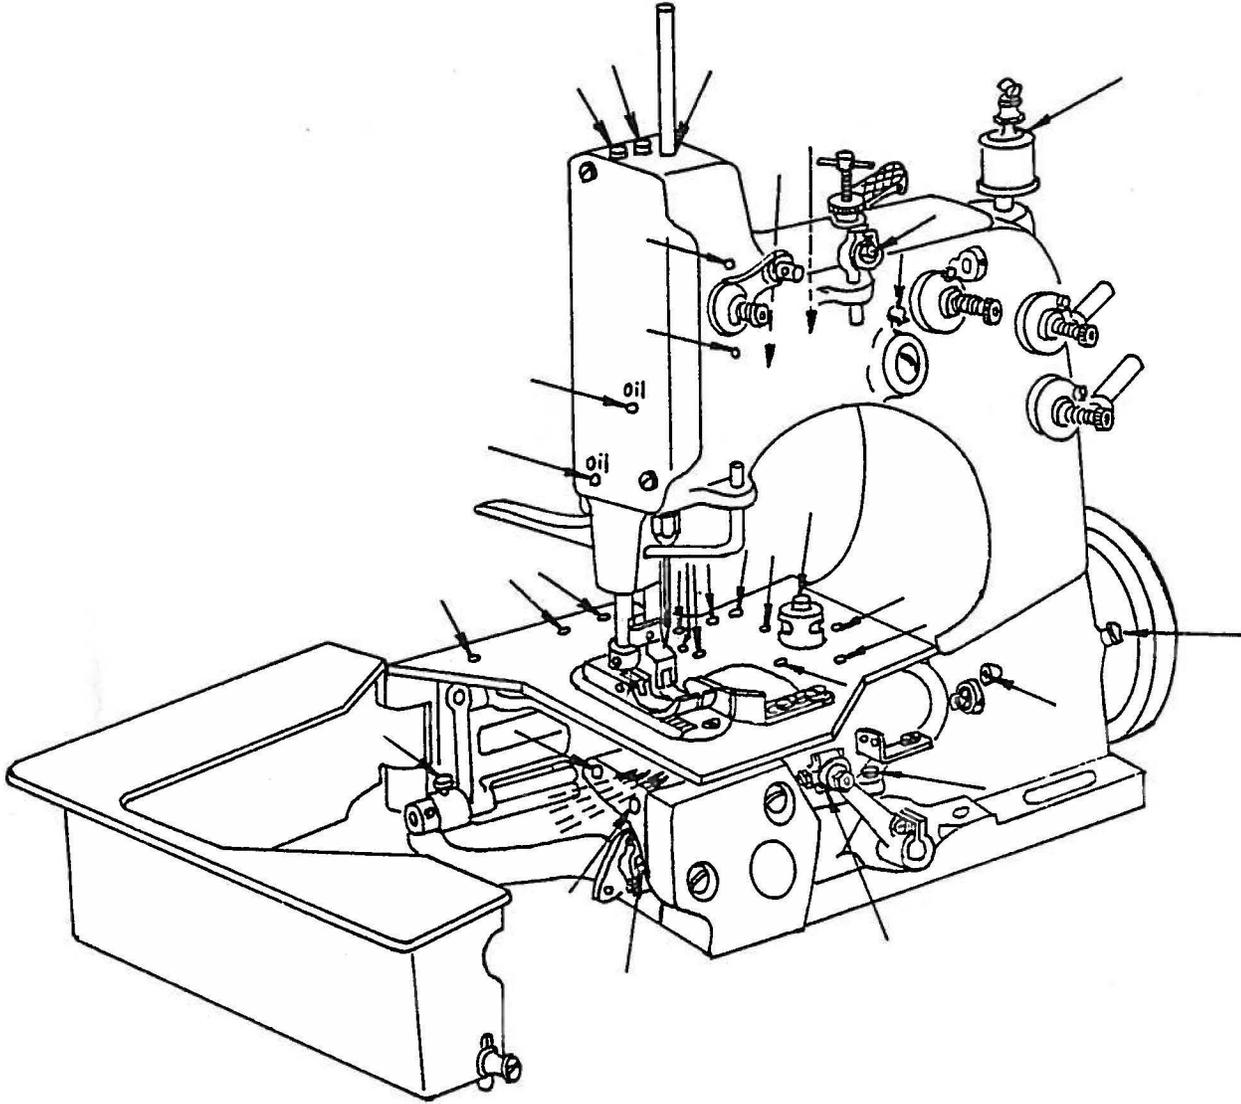

Fig. 1
1. Clean machine thoroughly. Fill oiling system and oil all bearings, particularly the eccentrics on the main shaft. Run the machine slowly for a minute to allow the oil wicks to carry the oil to the bearings. See that the wicks are saturated by the flow from the oil reservoir and that they contact the oil holes in the straps. Repeat the oiling and run for five minutes at 2,000 R.P.M.. Oiling diagram (Figure 1) is available.